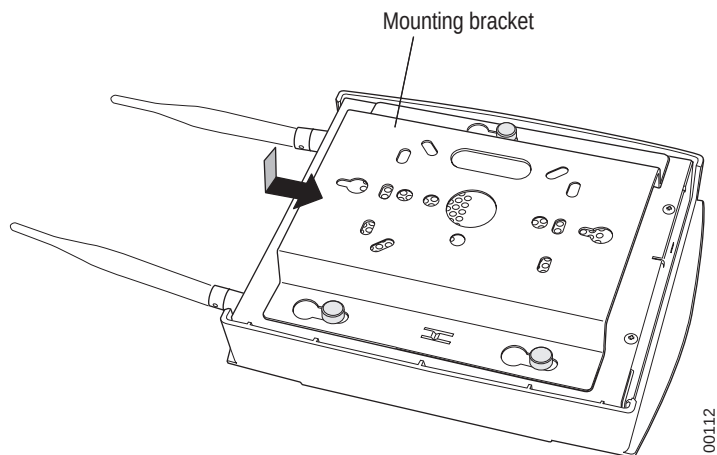

Figure 17: Sliding the AP200 into the Bracket
8. Align the AP200 mounting posts over the circular portion of the keyhole mounts, push the AP in and slide the AP down until it engages with the locking detents (see Figure 17). You should hear it snap in place.
10. Connect the posts of the AP200 to the three keyholes of the mounting bracket and slide into the keyhole (see Figure 17), ensuring the locking detent is engaged. You will hear a click.